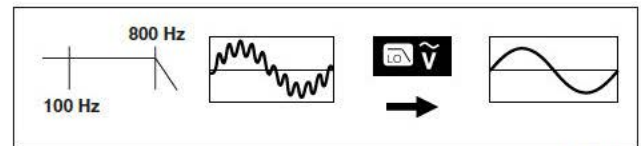

Figure 5. Low Pass Filter
The 1587 is equipped with an ac low-pass filter. When measuring ac voltage or ac frequency (\tilde{V}), press the blue button to activate the Low-Pass Filter function (LO). The Meter continues measuring in the selected ac mode, but now the signal diverts through a filter that blocks unwanted frequencies above 800 Hz. Refer to Figure 5. The low pass filter can improve measurement performance on